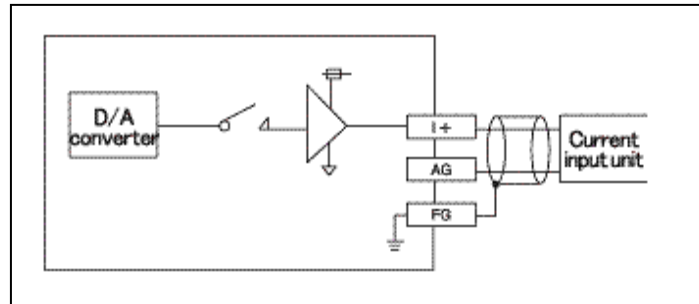

Figure 3.4
Figure 3.4 details a typical connection to one of the eight(8) 4 to20ma output connections. See Appendix B for a complete list of terminal connections on the optional 4 to 20ma output block.